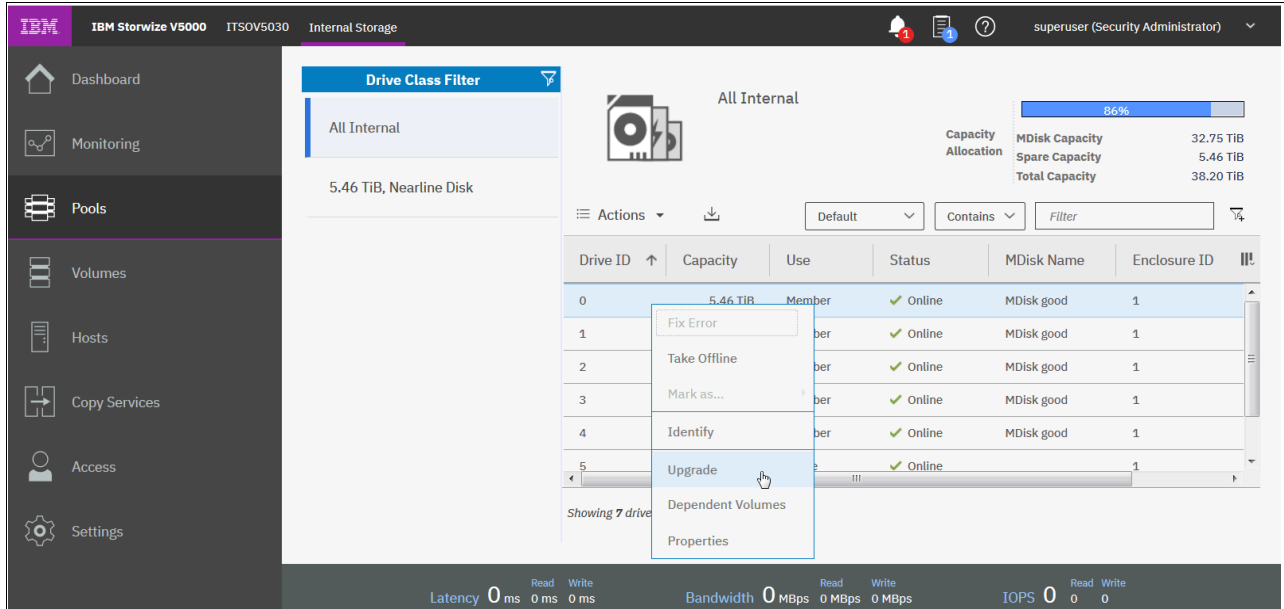

Figure 12-61 Individual drive update
1. Navigate to **Pools** → **Internal Storage**, right-click the drive to update, and select **Upgrade** from the Actions menu, as shown in Figure 12-61.